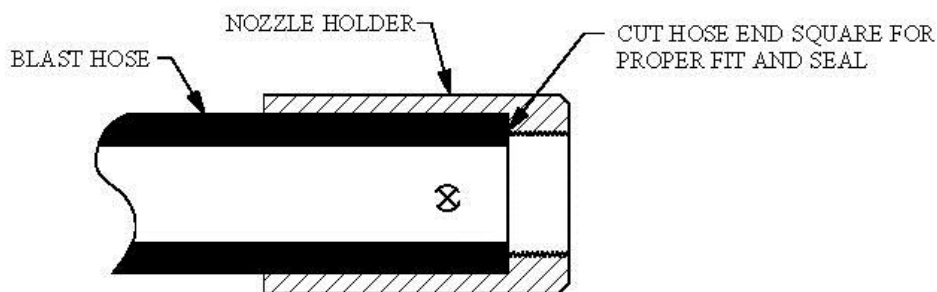

Figure 8.3 – Hose End Fit up
- 8.8. **Blast and Air Hose Gaskets:** All air hose, blast hose, and threaded couplings have gaskets that seal the connection. To reduce loss of air pressure and/or premature abrasive wear replace these gaskets when leaks are found. Inspect the couplings daily for leaks and wear. Replace gaskets when visible wear or leaks are found. When installing or replacing hose couplings cut the hose end square for secure fit (see Figure 8.3). To insure proper coupling connection always use fittings that are the same brand. See the drawings and part lists in Section 9.0.